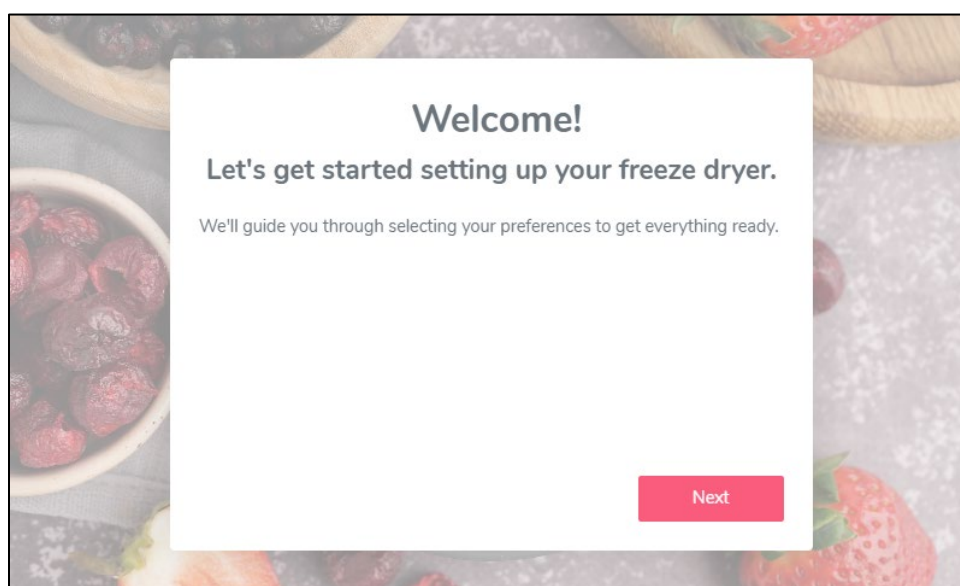

Figure 1
1. Shortly after powering on the Freeze Dryer, the Welcome screen is shown (Figure 1).